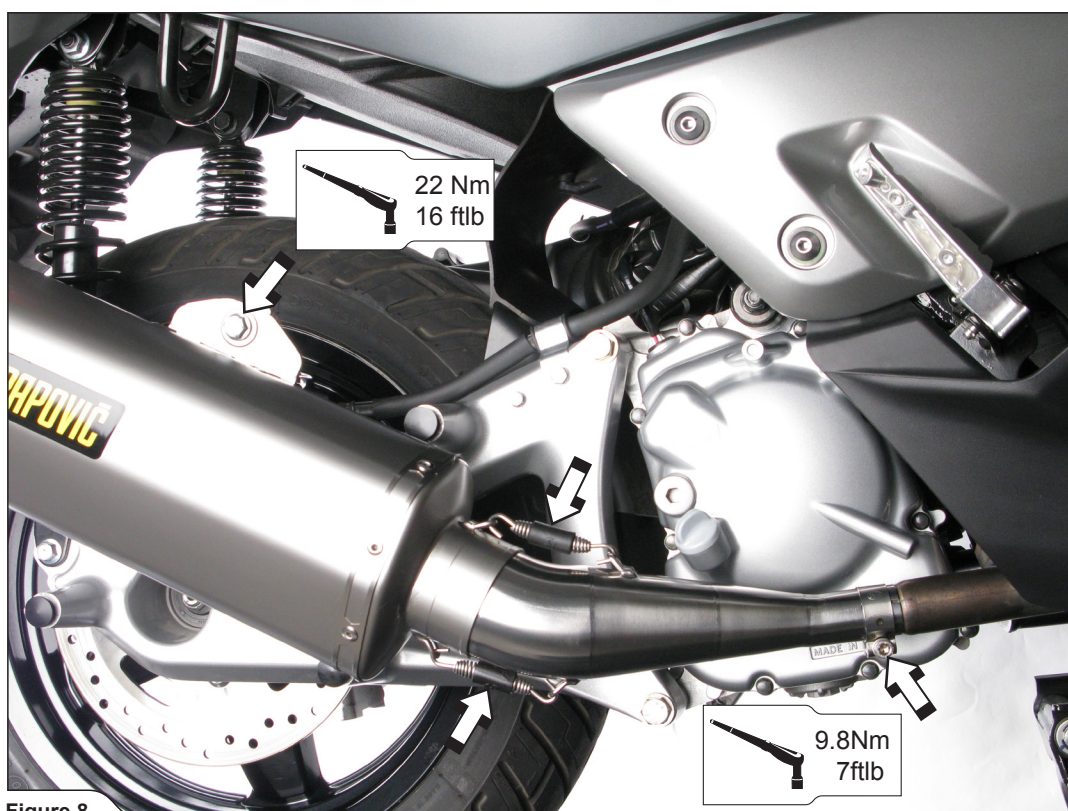

Figure 8
5. Position the muffler correctly and slide it onto the outlet side of Akrapovič link pipe and attach the springs. Align the muffler in respect the motorcycle and tighten the muffler's bracket bolt, using Akrapovič bolt and washer. Tighten the metal clamp at the Akrapovič link pipe/stock header pipe joint to a specified torque (Figure 8).